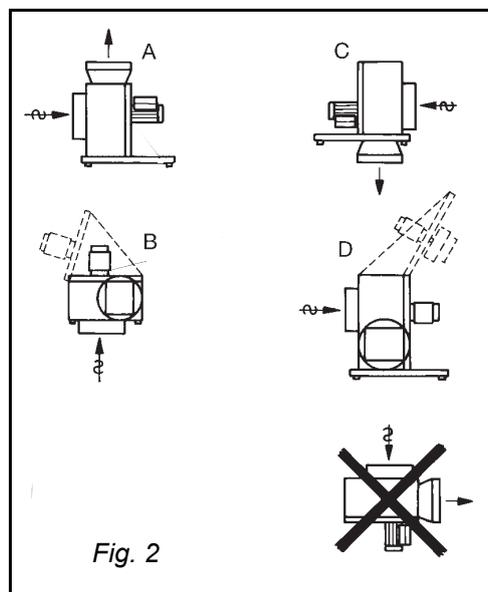

Fig. 2
There are various ways of fitting the ventilator indoors (Fig. 2). With methods B and D the service door must be kept in the open position during service. A safety fitting for this purpose can be supplied (including an assembly kit).
- **BESB/FSB 400 and 500:** When using fitting method B (Fig. 2/4) for BESB/FSB 400 and 500, holes (Ø16 - Ø20) are bored in the cabinet for the fitting of the mounting bars.